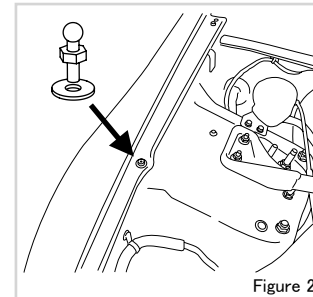

Figure 2
- 4) Unscrew and remove one of the bolts holding the fender near the strut tower (center part). (See Figure 2)